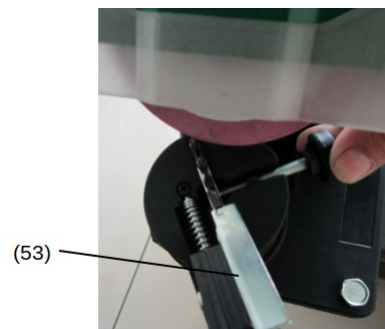

Figure 6: Chain stop (53)
2. Lift up the **chain stop (53)** and secure the chain in the **fixed disk (50)** (see **fig. 6**).